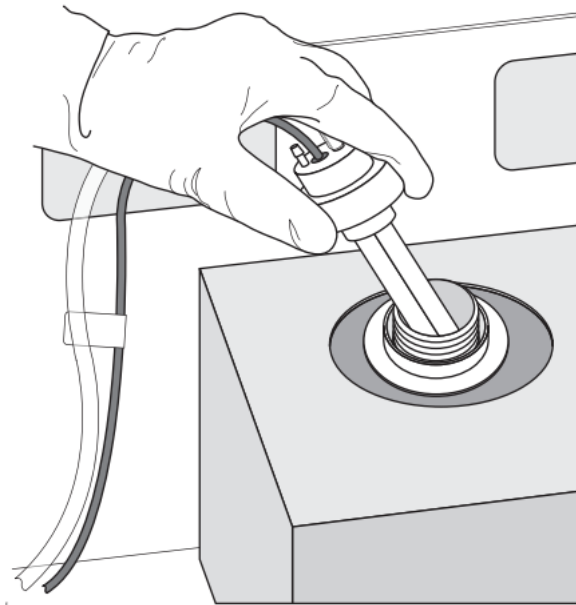

Figure 13 - Removing the cap and sensor assembly
- Remove the cap and sensor assembly and set it aside (see Figure 13).